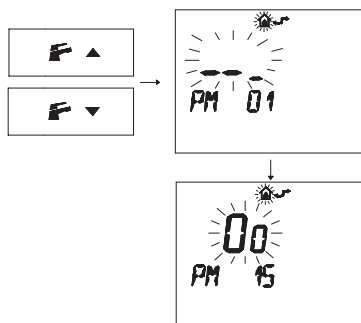

Fig. 8.3
- Press buttons  or  to display the "PM15" program that enables the external probe (Fig. 8.3).